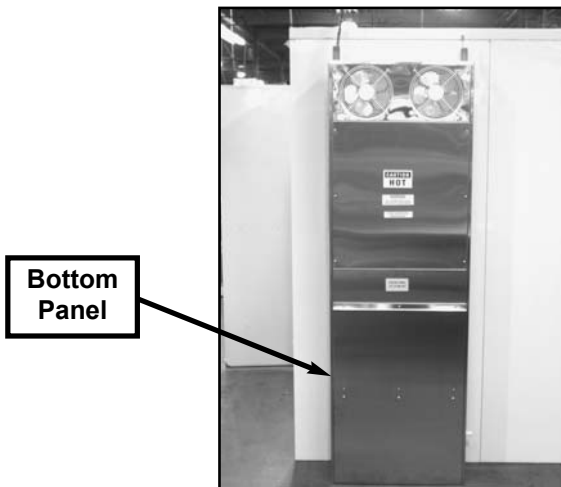

Figure 1
3. Remove Bottom Panel of Air-Wash System by lifting up and away with Mounted Handle. Place Bottom Panel in secure location to avoid damage. See **Figure 1 & 1a**.